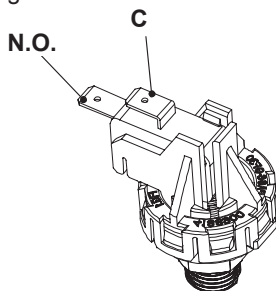

Figure 12.2
- 1 Measure the electrical resistance between the tabs "C" and "N.O." (Figure 12.2).